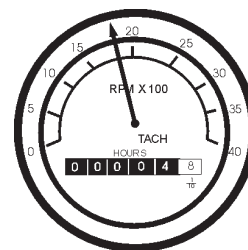

Figure 50. Engine Tachometer
15. The tachometer (Figure 50) will indicate the speed of the engine when the generator is operating. Under normal operating conditions this speed is approximately 1800 RPM's.